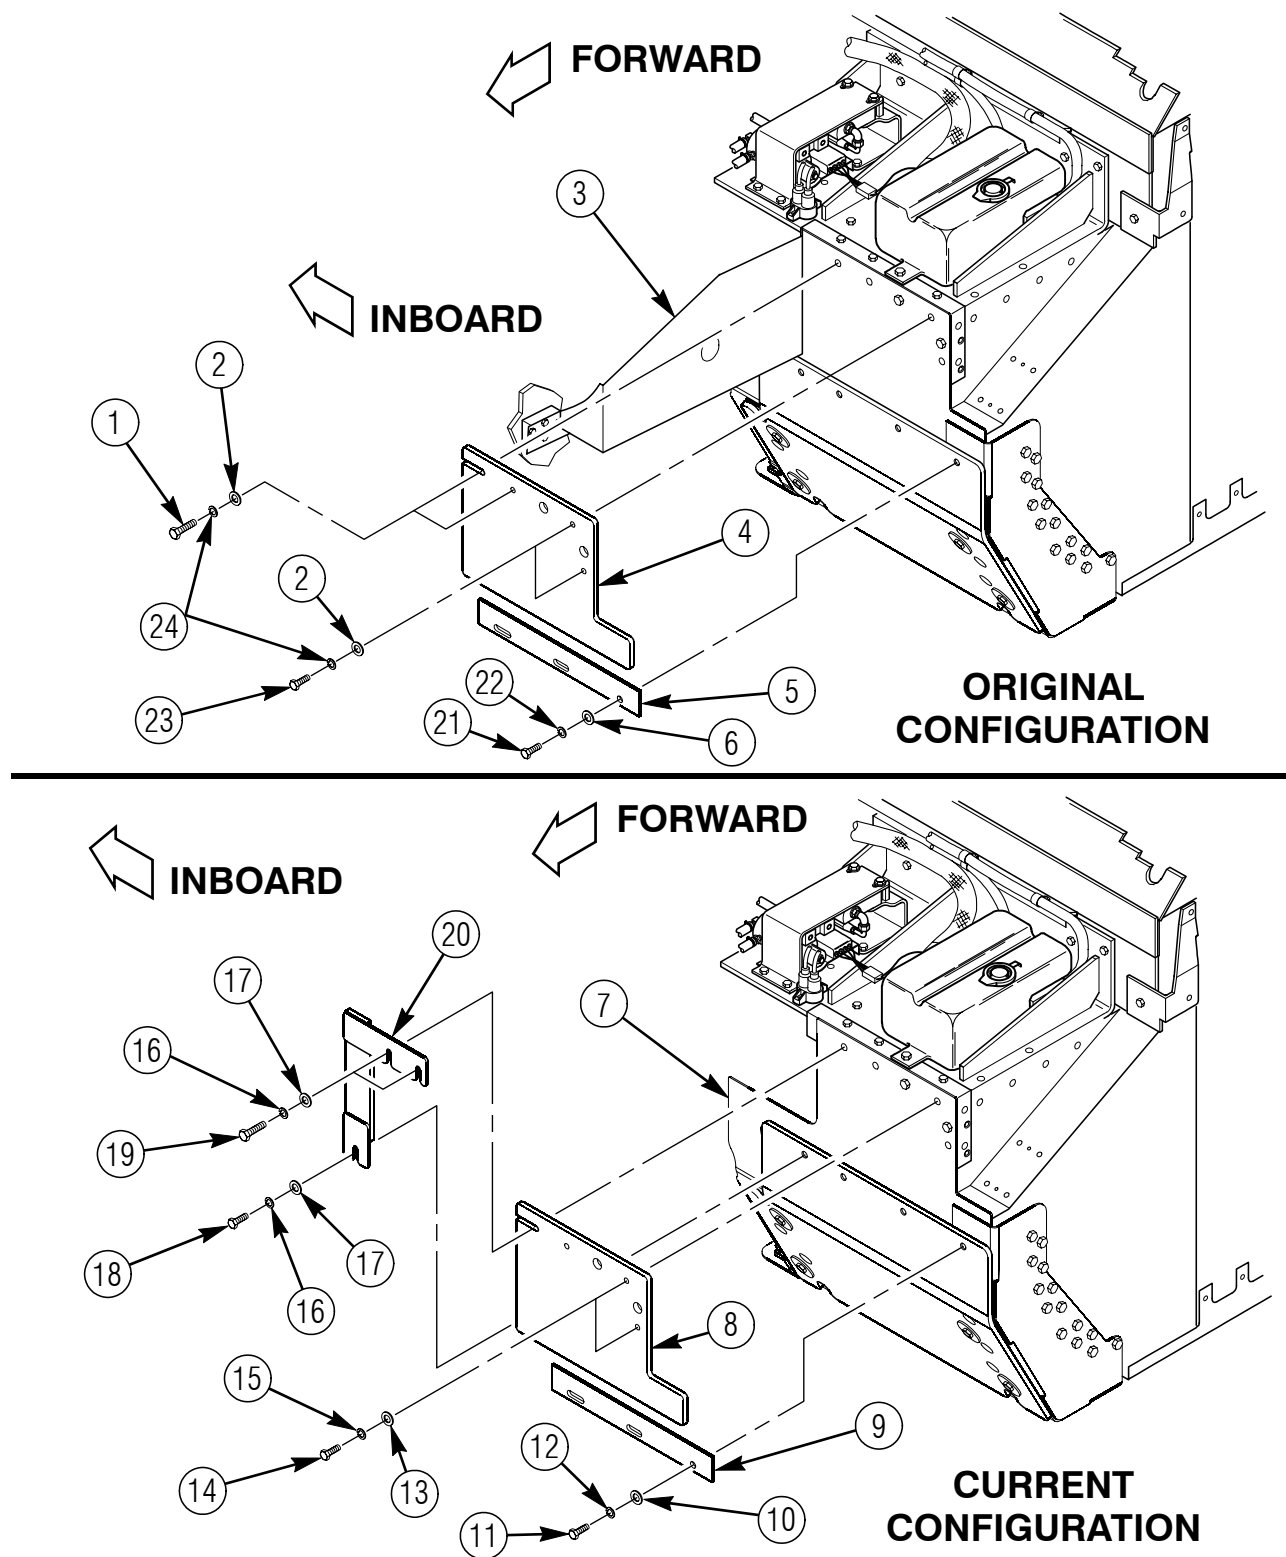

Figure 7.
- a. Install 64342835-01M1 or 6434835-200M1 left front underbody wheelwell upper armor (4) on front cowl section of left front underbody (3) with two 4397000-010 capscrews (23), two 4397000-012 capscrews (1), four 4397004-006 lockwashers (24), and four 4397005-011 washers (2) as shown in figure 7. Tighten four capscrews (1 and 23) to 6 lb-ft (8.1 N·m).
- b. Install 6434875-01M1 or 6434875-200M1 left front underbody wheelwell gapstrip armor (5) with three 4397000-006 capscrews (21), 4397004-006 lockwashers (22), and 4397005-011 washers (6) as shown in figure 7. Tighten three capscrews (21) to 10 lb-ft (13.6 N·m).
- a. Install 64342835-01M1 or 6434835-200M1 left front underbody wheelwell upper armor (8) on front cowl section of left front underbody (7) with two 4397000-010 capscrews (14), two 4397004-006 lockwashers (15), and two 4397005-011 washers (13) as shown in figure 7. Do not tighten capscrews (13) at this time.
- b. Slide 6434240-01M1 or 6434240-200M1 left front underbody wheelwell upper overlay armor (20) down in mounting position and install two 4397000-012 capscrews (19), one 4397000-006 capscREW (18), three 4397004-006 lockwashers (16), and three 4397005-011 washers (17) as shown in figure 7. Tighten four capscrews (14 and 19) to 6 lb-ft (8.1 N·m) and capscREW (18) to 10 lb-ft (13.6 N·m).
- c. Install 6434875-01M1 or 6434875-200M1 left front underbody wheelwell gapstrip armor (9) with three 4397000-006 capscrews (11), 4397004-006 lockwashers (12), and 4397005-011 washers (10) as shown in figure 7. Tighten three capscrews (11) to 10 lb-ft (13.6 N·m).